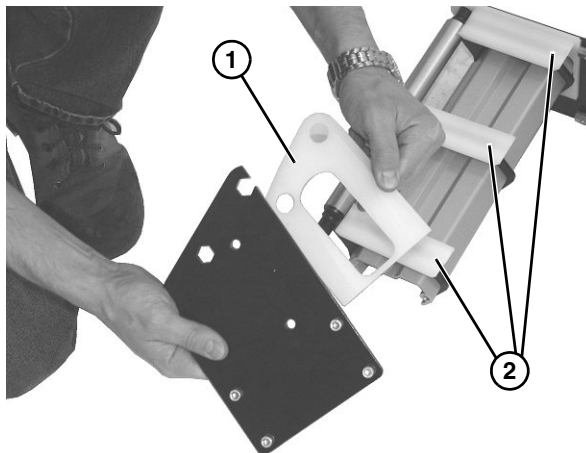

Figure 52
11. Check idler terminal assembly on each side (**Figure 52, item 1**) for wear. If worn, replace.
12. Remove and replace wear guides (**Figure 52, item 2**) if worn. When replacing, secure onto pins on each support plate.